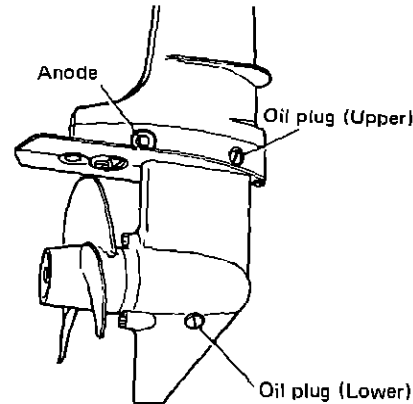

Fig. 28 Draining the gear oil
- Remove oil plugs (upper and lower) and drain gear oil completely. (Fig. 28)